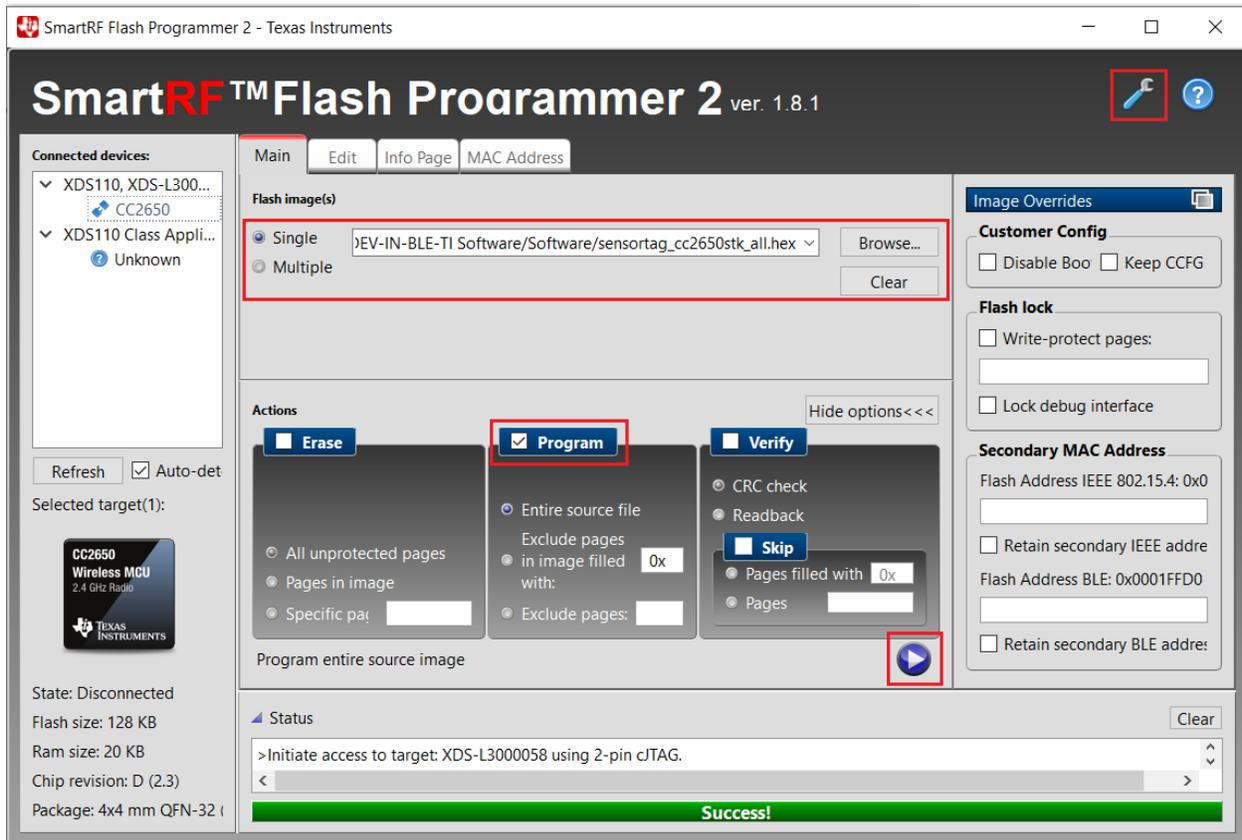

Figure 40, SmartRF Flash Programmer 2 Successful Operation.
- 3) When finished, open application to the 'Main' tab (Figure 40).
- 8) Navigate to the DEV-BLE-TI Software folder in the provided Software and Resources Package. Select sensortag_cc2650stk_all.hex (Figure 40)
- 9) In the Actions list check Program. (Figure 40)